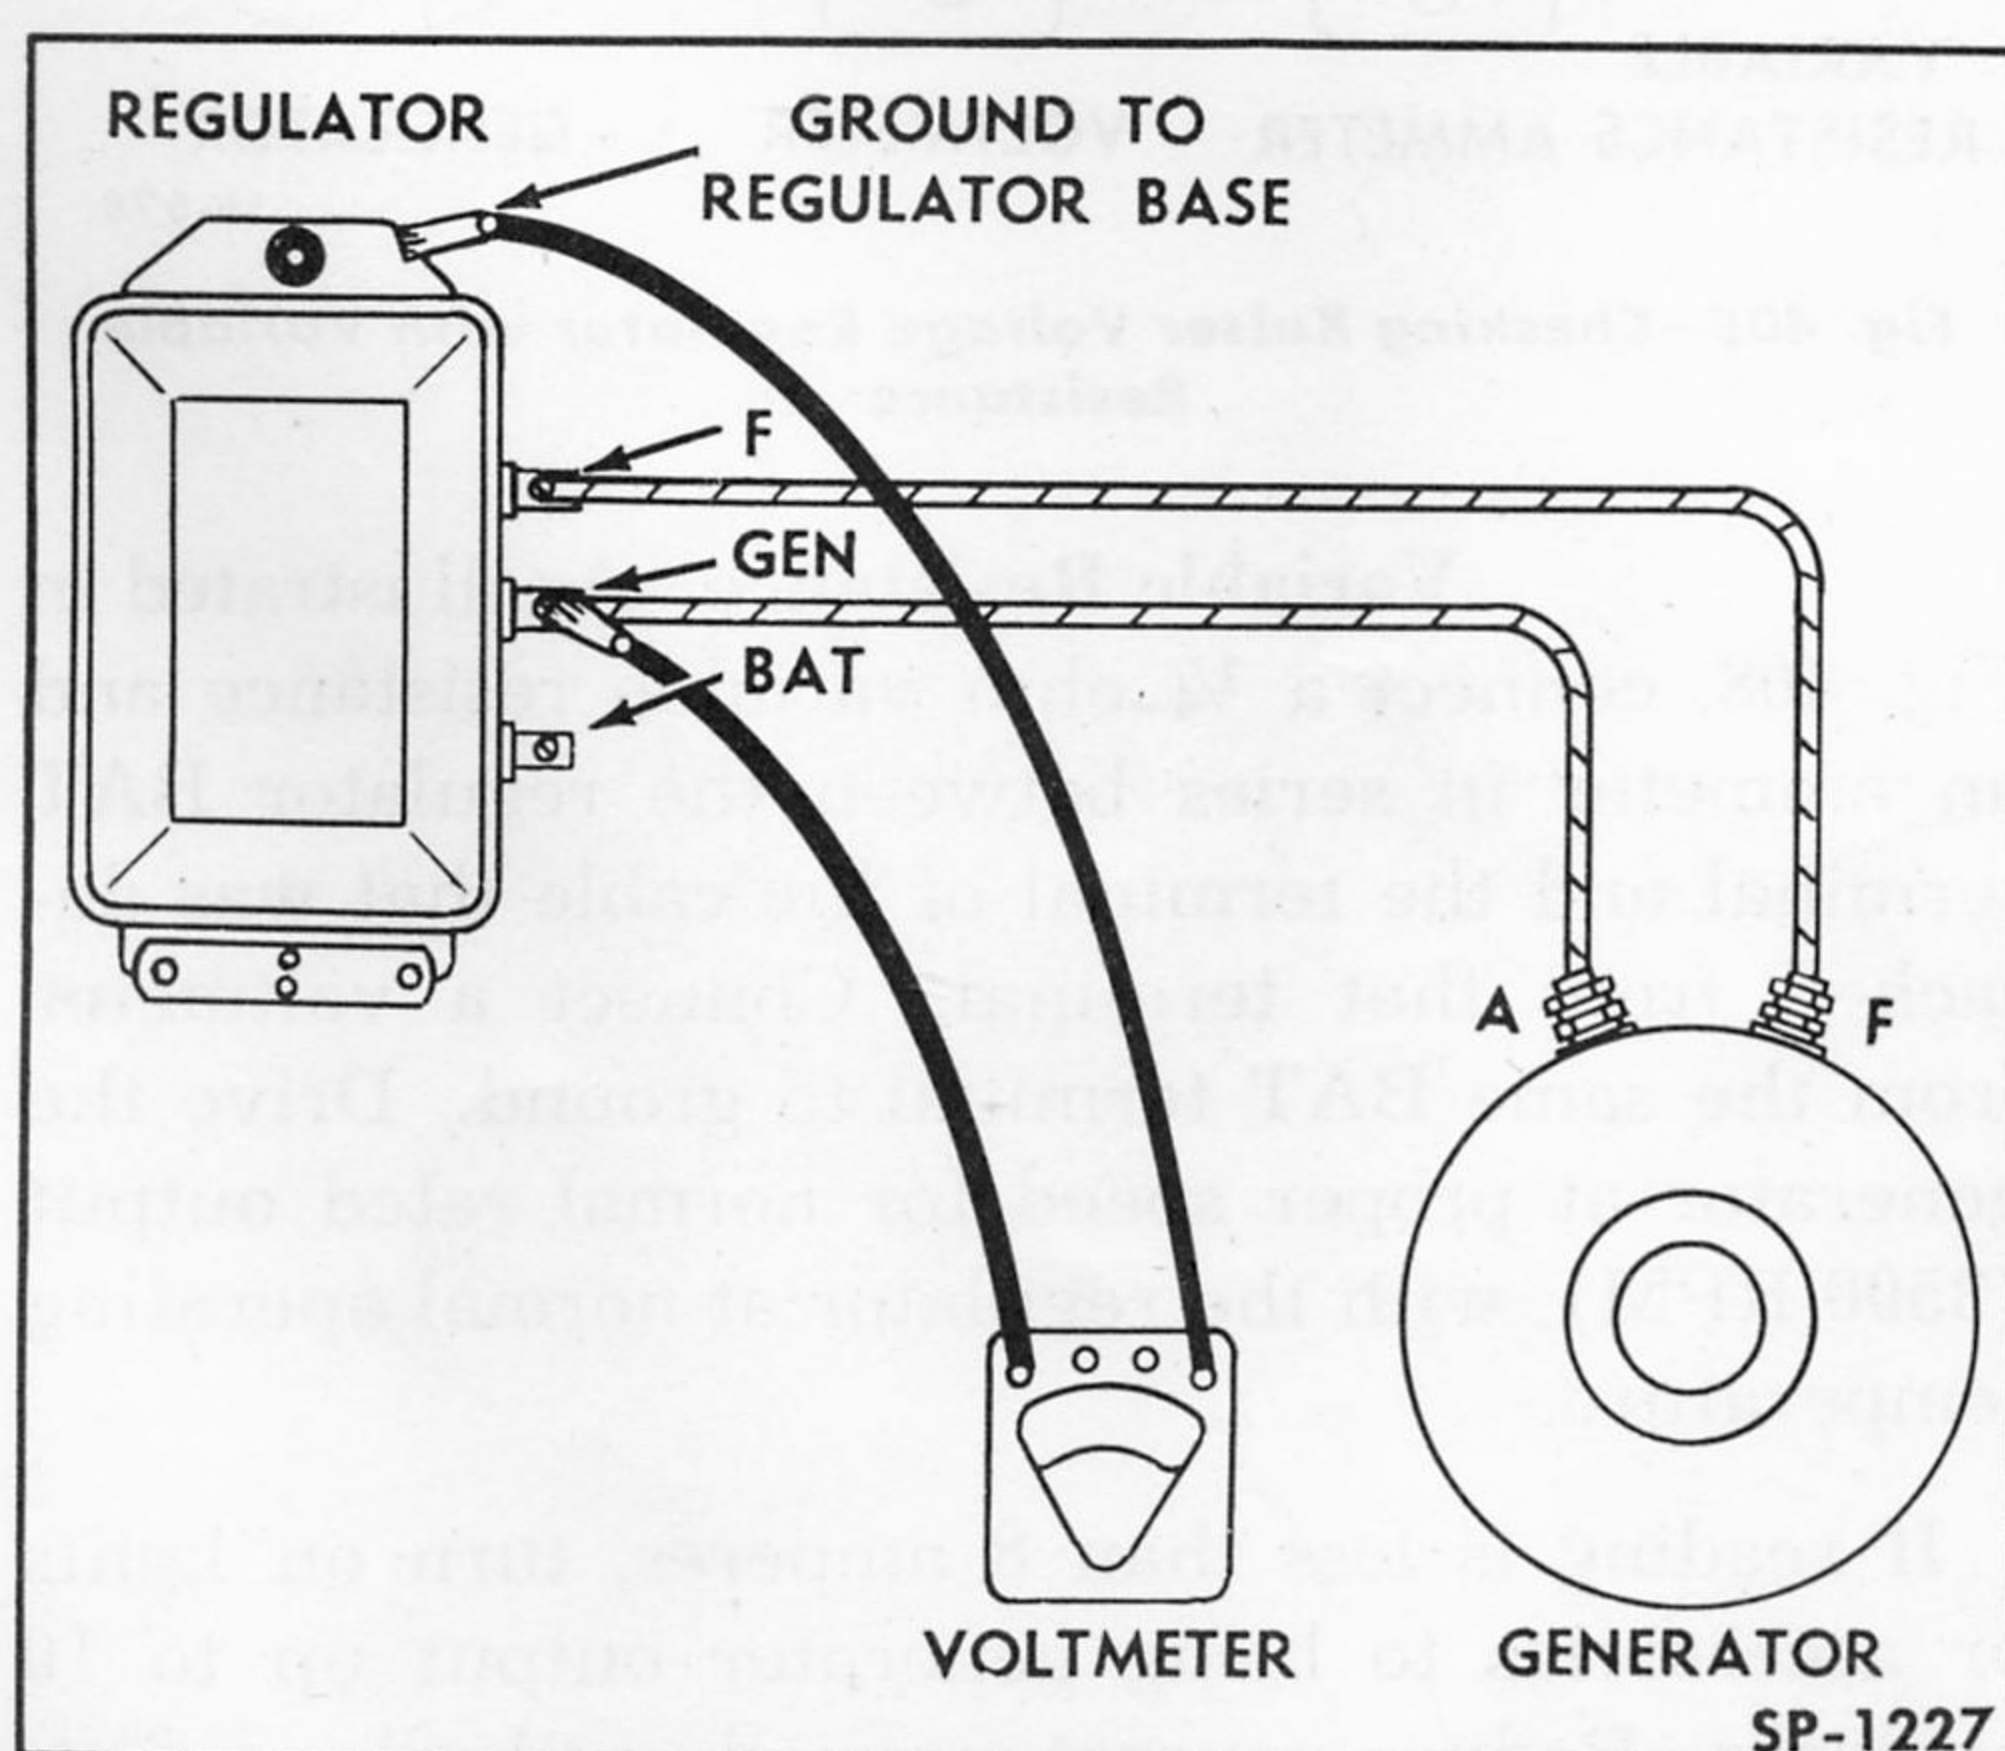

Fig. 403—Checking Kaiser Cut-Out Relay Closing Voltage
(3) **Closing Voltage.** To check, connect a voltmeter, (0-10 reading) as shown in Fig. 403 between the GEN terminal and the regulator base. Slowly increase the generator speed while watching the voltmeter. Closing should be between 5.9 and 6.8 volts. If below or above these limits, adjust to